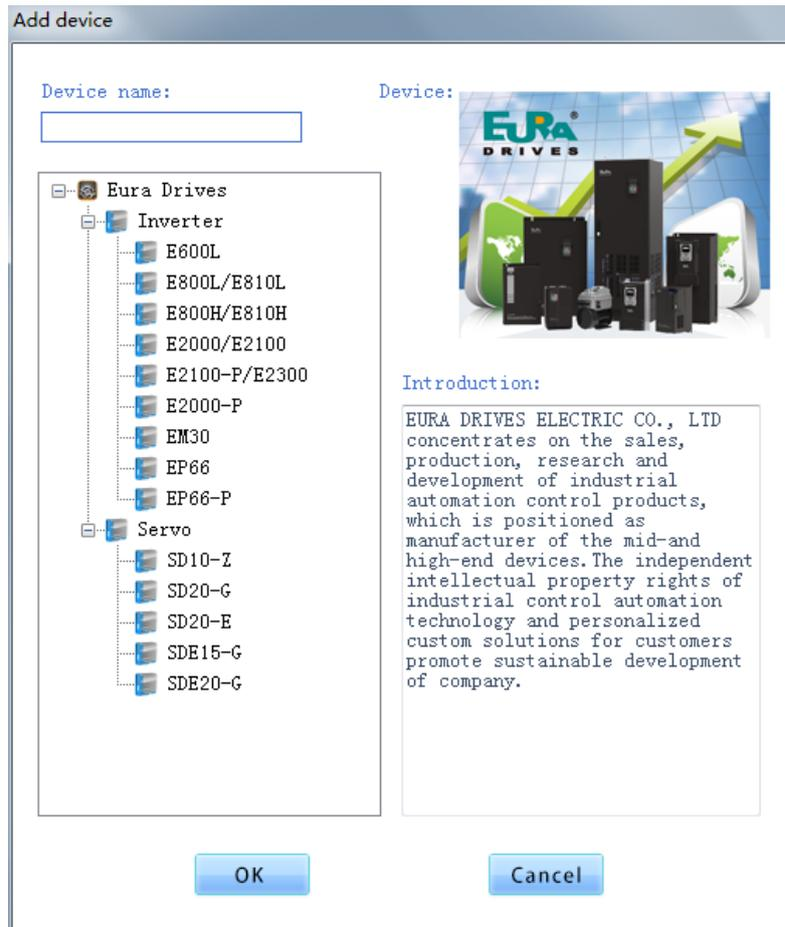

Fig 3-3 New Project Interface
- ① Minimize button   ② Close button   ③ Toolbar   ④ Feature bar shortcut
⑤ Program main function zone
3. Create new project, user clicks [Project] → [New Project], enter project name firstly, popup new project window after [Save](Fig 3-3);